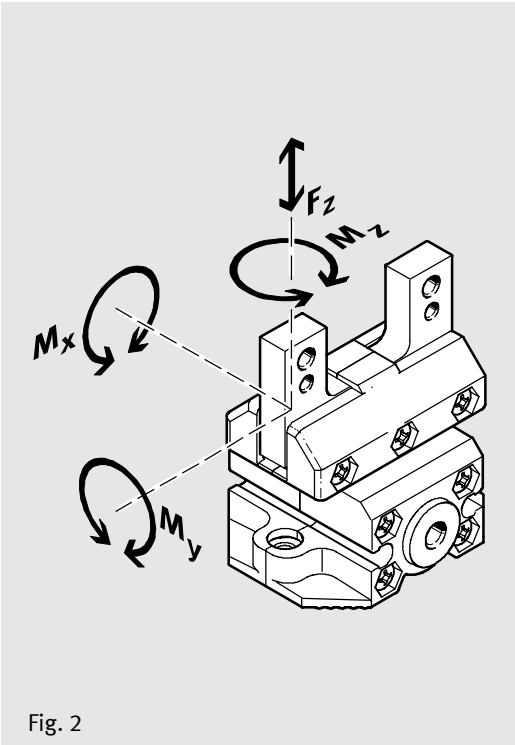

Fig. 2
- torques Mx, My and Mz (see Fig. 2, left).